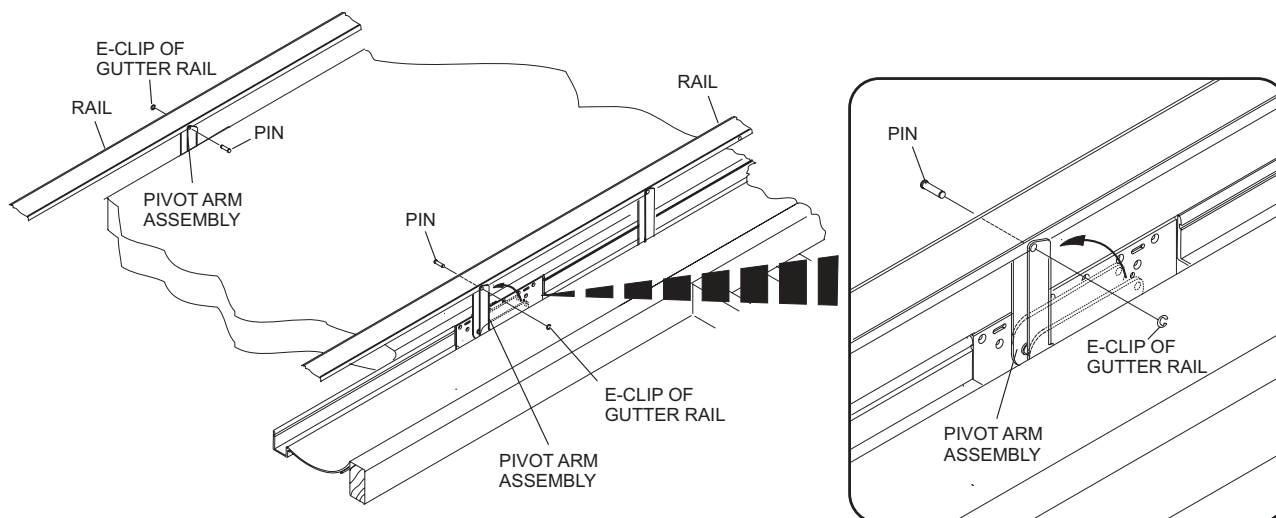

Figure 1
1. Raise the rails on the lane to be upgraded. For centers with Pinball Wizard disconnect the motor drive arm from the rail. This is done by removing the e-clip and pin. Refer to *Figure 1*.
19. If the lane is equipped with a Pinball Wizard motor, reconnect the motor drive arm to the rail with a pin and e-clip. Refer to *Figure 1*.